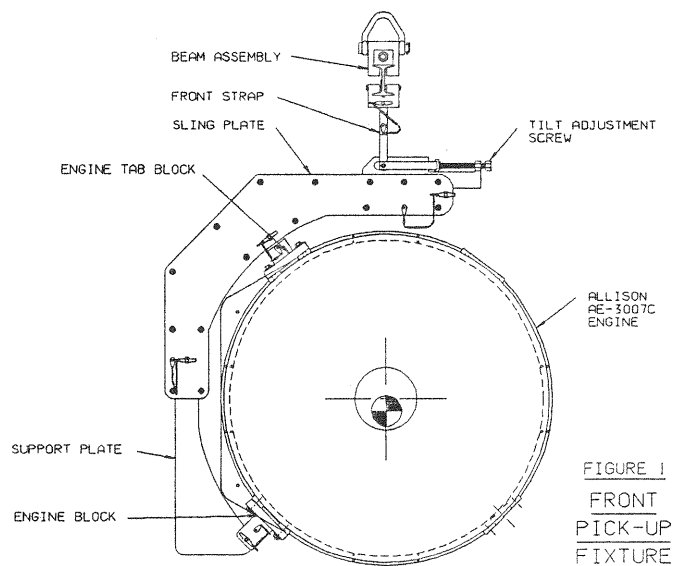

Figure 1
The engine sling capabilities include lifting the engine from one side of the engine on the engine front mounting pads with a single rear lift point (as in Figure 1) and lifting the engine from the top engine mounting pads and a single rear pickup point. The engine sling will allow the engine to be rolled -2 degrees to +7 degrees in any of the engine sling configuration (as in Figure 3). The engine sling lift point has 17 ½ inches of adjustability to allow for locating the exact center of gravity for the engine. The engine sling is manufactured of hardcoat anodized aluminum to reduce the weight of the sling to only 109 lbs. with the largest component weighing only 40 lbs.
- A. Attach front pickup fixture to outboard engine mount pickup points (see Figure 1).